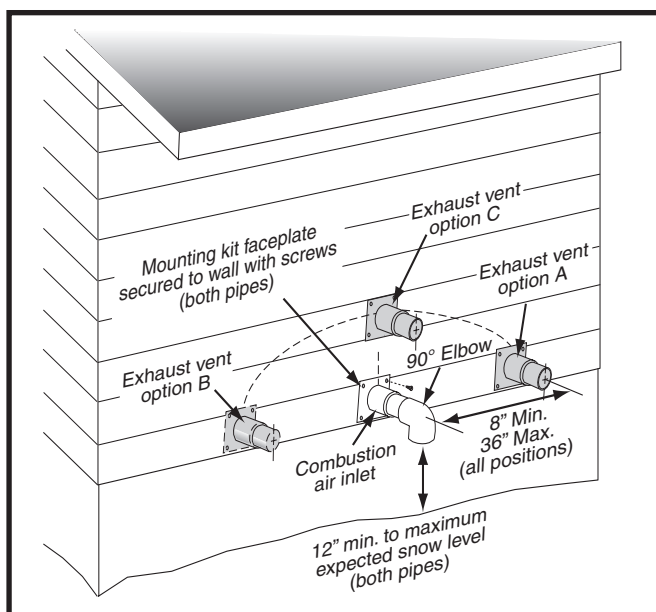
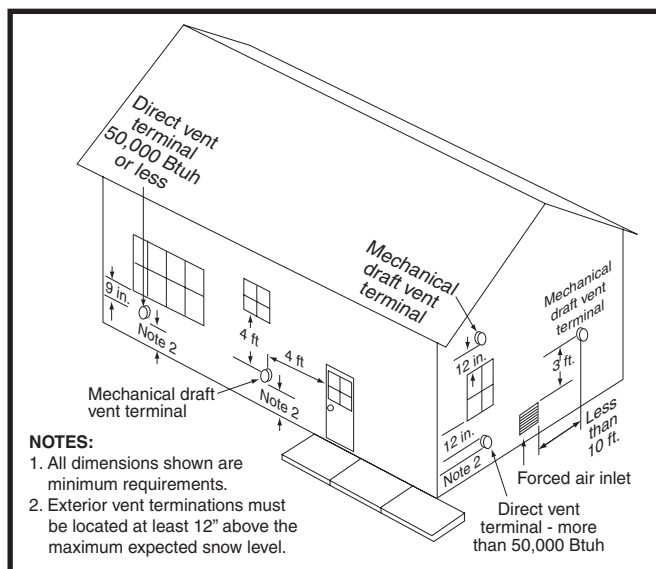
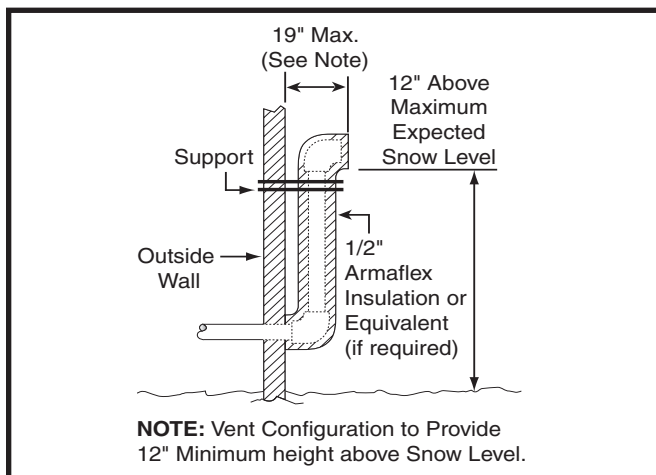
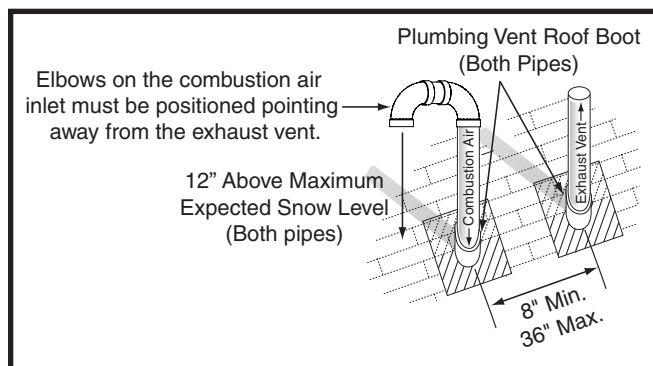

Figure 1. Inlet & Exhaust Pipe Clearances
Figure 2. Vent Locations
Figure 3. Alternate Horizontal Vent Installation
Figure 4. Vertical Vent Termination
- The combustion air intake and the vent exhaust must be located in the same atmospheric pressure zone. This means both pipes must exit the building through the same portion of exterior wall or roof as shown in Figure 1, Figure 2, Figure 4, and Figure 30 \(page 39\).
- Vent and combustion air intake terminations shall be installed as shown in Figure 1, Figure 2, Figure 3, and Figure 4 in accordance with these instructions:
- All minimum clearances must be maintained to protect building materials from degradation by moisture content in flue gases. When wall venting on surfaces that could be affected by this moisture, it is recommended that a corrosion resistant shield be used behind the vent terminal. Adequately seal or caulk all joints, cracks, and seams around the vent terminal. (Figure 1 \(page 10\))
- When the vent pipe must exit an exterior wall close to the grade or expected snow level where it is not possible to obtain clearances shown in Figure 1, a riser may be provided as shown in Figure 3. Insulation is required to prevent freezing of this section of pipe. See Table 4, \(page 11\) for vent freezing protection.
Termination spacing requirements from the roof and from each other are shown in Figure 4. The roof penetration must be properly flashed and waterproofed with a plumbing roof boot or equivalent flashing. Vent and combustion air piping may be installed in an existing chimney which is not in use provided that:
- The termination clearances shown in Figure 4 are maintained.